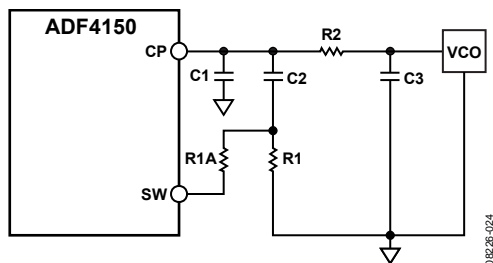

Figure 25. Fast Lock Loop Filter Topology—Topology 2
- An extra resistor (R1A) is connected directly from SW, as shown in Figure 25. The extra resistor is calculated such that the parallel combination of an extra resistor and the damping resistor (R1) is reduced to $\frac{1}{4}$ of the original value of R1 (see Figure 25).